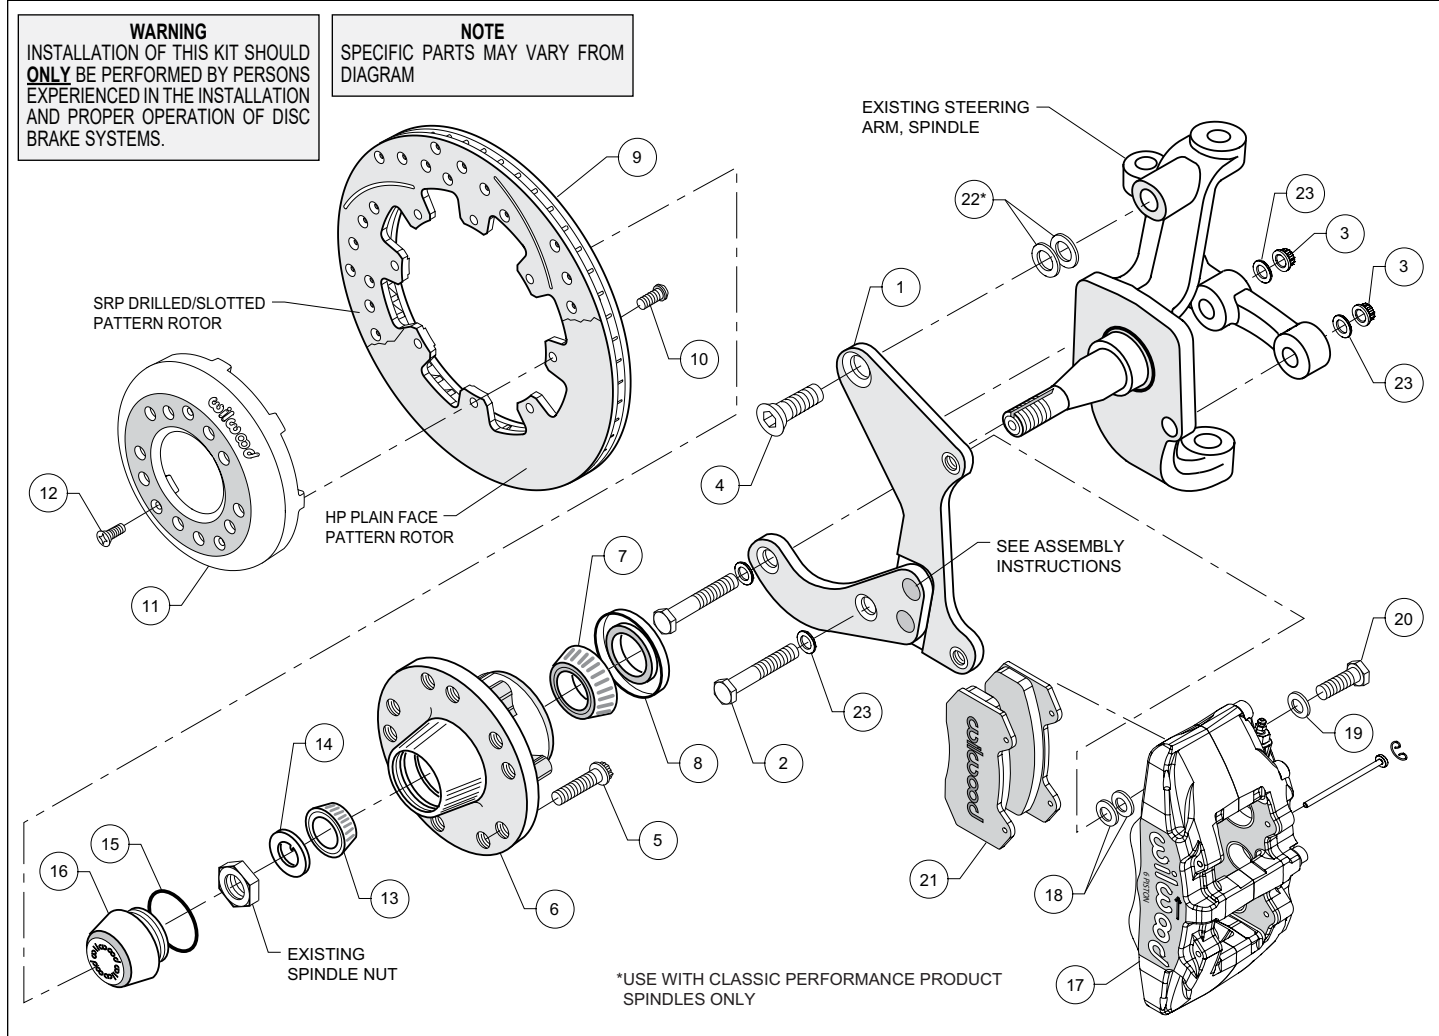
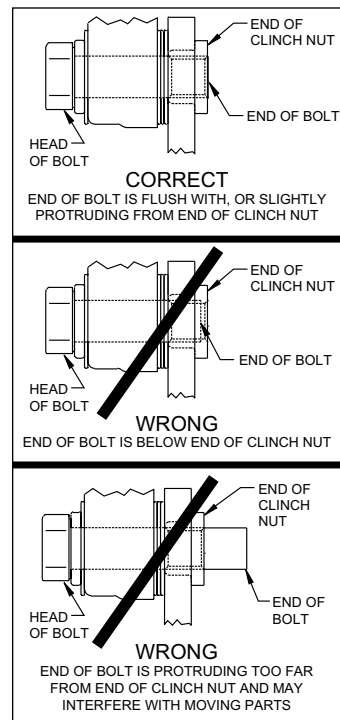

Figure 1. Typical Installation Configuration
Figure 3. Clinch Nut Engagement Diagram
NOTE: Numbers in parenthesis refer to the parts list and Figure 1 on the preceding pages.
CAUTION: All mounting bolts must fully engage clinch nuts. Be sure to check that all bolts are either flush or protruding through flanged side of clinch nut after shimming, Figure 3.
- The caliper mounting bracket (1) has been assembled at the factory for alignment purposes. Loosen the two bolts that secure the brackets together so that the bolts are hand tight only, this will enable the bracket assembly to be adjusted to accommodate various spindle tolerances during assembly. Orient the bracket as shown in Photo 1 and Figure 1, and install to lower mount holes using bolts (2), washers (23), and lock nuts (3), Figure 1 and Photo 1. Do not tighten yet.
- For Classic Performance Products spindles only:** Initially use two .024" thick shims (22) on upper mount bolt between bracket and spindle, Figure 1. While test fitting bracket assembly per the instructions below, check that the bracket is parallel to the rotor. If not, add or subtract shims (22) between the bracket and spindle.
- Install bolt (4) in the upper bracket hole. Temporarily tighten all of the bracket mounting bolts. Ensure that the flanged heads of the clinch nuts in the bracket are facing outboard, Photo 1. **NOTE:** The bracket must fit squarely against the mounting points on the spindle. Inspect for interference from casting irregularities, machining ridges, burrs, etc. Torque lower lock nuts to 47 ft-lb. Remove the upper bolt, apply red *Loctite*® 271 to threads, and torque to 140 ft-lb. Remove one at a time the bolts that secure the bracket assembly to each other, apply red *Loctite*® 271 to the threads and torque to 40 ft-lb.
- Install wheel studs (5) into the hub (6), Photo 2 and Figure 1. Torque to 77 ft-lb. **NOTE:** There are two five lug patterns in the hub (5 x 4.50 and 5 x 4.75). Ensure the correct hub stud pattern is being used to fit the wheel application.
- Pack the large inner bearing cone (7) with high temperature disc brake bearing grease (available from your local auto parts store) and install into the backside of the hub (6), Photo 3.
- Install the grease seal (8) by pressing into the backside of the hub (6), flush with the end of the hub, Photo 3.
- Pack the small outer bearing cone (13) with high temperature disc brake bearing grease and install into the front side of the hub (6). Secure using spindle washer (14), and OEM spindle nut, Photo 4. Bearing adjustment: Tighten the nut while turning the hub. When there is a slight bind on the bearings, they are seated correctly. Back the nut off about 1/6 to 1/4 of a turn, or sufficiently to allow .001" to .007" end play. **WARNING:** Failure to back off adjusting nut could cause bearing to run hot and be damaged, which could cause the wheel to lock or come off. Install OEM spindle nut retainer and new cotter pin (not supplied).
- Screw dust cap (16) into hub (6), Photo 5. Friction created by the o-ring (15) on the dust cap keeps it from unscrewing. **NOTE:** The O.D. of the existing OEM spindle washer may be larger than the I.D. of the dust cap not allowing it to seat against the hub face. Therefore, use the spindle washer (14) supplied with the kit instead of the OEM washer.
- Orient the rotor (9) and the hat (11) as shown in Figure 1. Attach the rotor to the hat using bolts (10). Apply red *Loctite*® 271 to the bolt threads and torque to 25 ft-lb using a criss-cross pattern.
- Slide the rotor/hat assembly over the hub (6) taking care to align the small countersunk holes in the hat (11) with the small threaded holes in the hub. Install three flat head screws (12) through the small holes in the hat and torque to 85 in-lb.
- NOTE:** Please reference the caution statement at the beginning of the assembly instructions. This kit contains distinct right and left hand calipers that must be mounted in a specific direction, as described below. Mount the caliper (17) onto the caliper bracket (1) using bolts (20) and washers (19). Initially place two .035" thick shims (18) on each bolt between the caliper and the bracket, Photo 6. Ensure that the caliper is mounted so the largest pistons are at the rotor exit end of the caliper, in relation to the direction of rotor rotation. Temporarily tighten the mounting bolts and view the rotor (9) through the top opening of the caliper. The rotor should be centered in the caliper, Photo 7. If not, adjust by adding or subtracting shims on each of the two mounting bolts. **NOTE:** The end of the bolt must be flush with or slightly protruding from the head of the clinch nut. If necessary, place spare shims between the washer and the caliper mounting ear to achieve the proper clinch nut engagement, as shown in Figure 3. Always use the same amount of shims on both the top and bottom caliper mounting bolts. Once the caliper alignment and clinch nut engagement are correct, remove the mounting bolts and caliper.
- Remove the two pad retaining pins from the caliper (17) by carefully popping out the pin retaining clips and sliding out the pins. Insert the brake pads (21) into the caliper from the bottom, Figure 1 and Photo 8, with the friction material facing the rotor. Secure the brake pads in place with the pad retaining pins and clips, Photo 9. Reinstall the caliper onto the caliper mounting bracket. Apply red *Loctite*® 271 to bolt threads (20), and torque to 40 ft-lb.